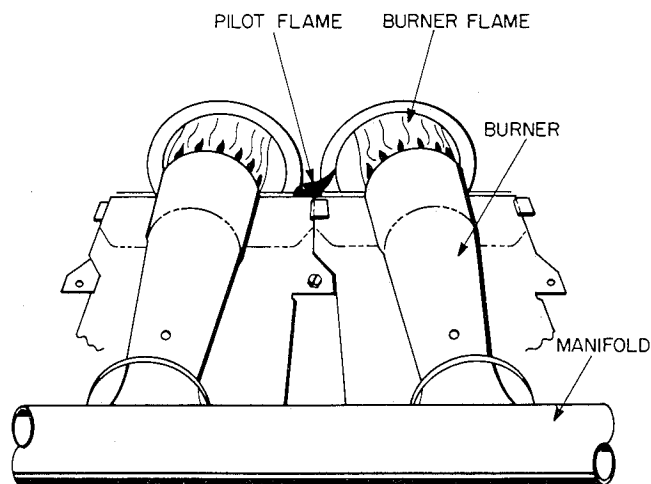

Fig. 22—Burner Flame
- c. The main burner flames should be clear blue, almost transparent. The pilot flame should be soft blue in color, well defined, and must provide good impingement on the pilot-sensing element. Pilot flame should extend above burner carryover port to provide proper burner ignition. (See Fig. 22.)